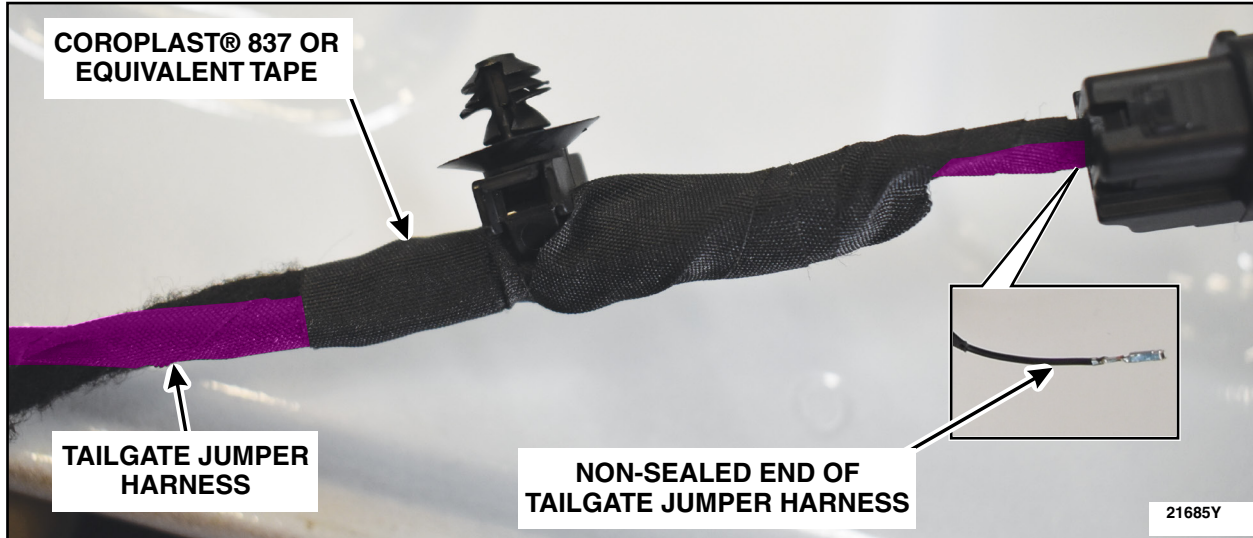

FIGURE 25
29. Install the Tailgate Jumper Harness non-sealed end terminal into the open pin in the tailgate latch control assembly electrical connector. Secure using Coroplast® 837 or Equivalent Electrical Wire Harness Tape. Reinstall the white locking tab. See Figure 25.